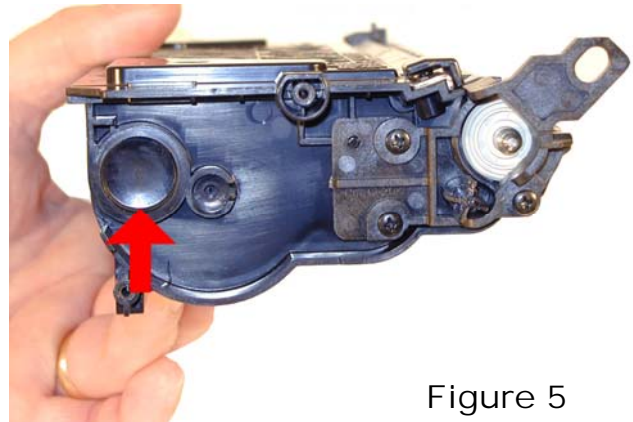

Figure 5
4) On the same side of the cartridge as the waste chamber, remove the toner fill plug. See **Figure 5**